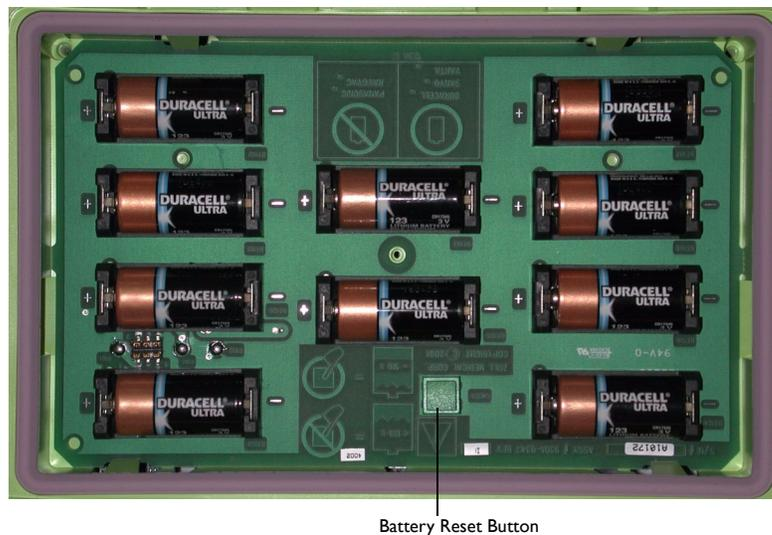

Figure 8: Battery Compartment
- After installing new batteries, press the Battery Reset button inside the battery compartment when prompted (see Figure 8). Pressing the button resets the battery usage indicator to full charge.